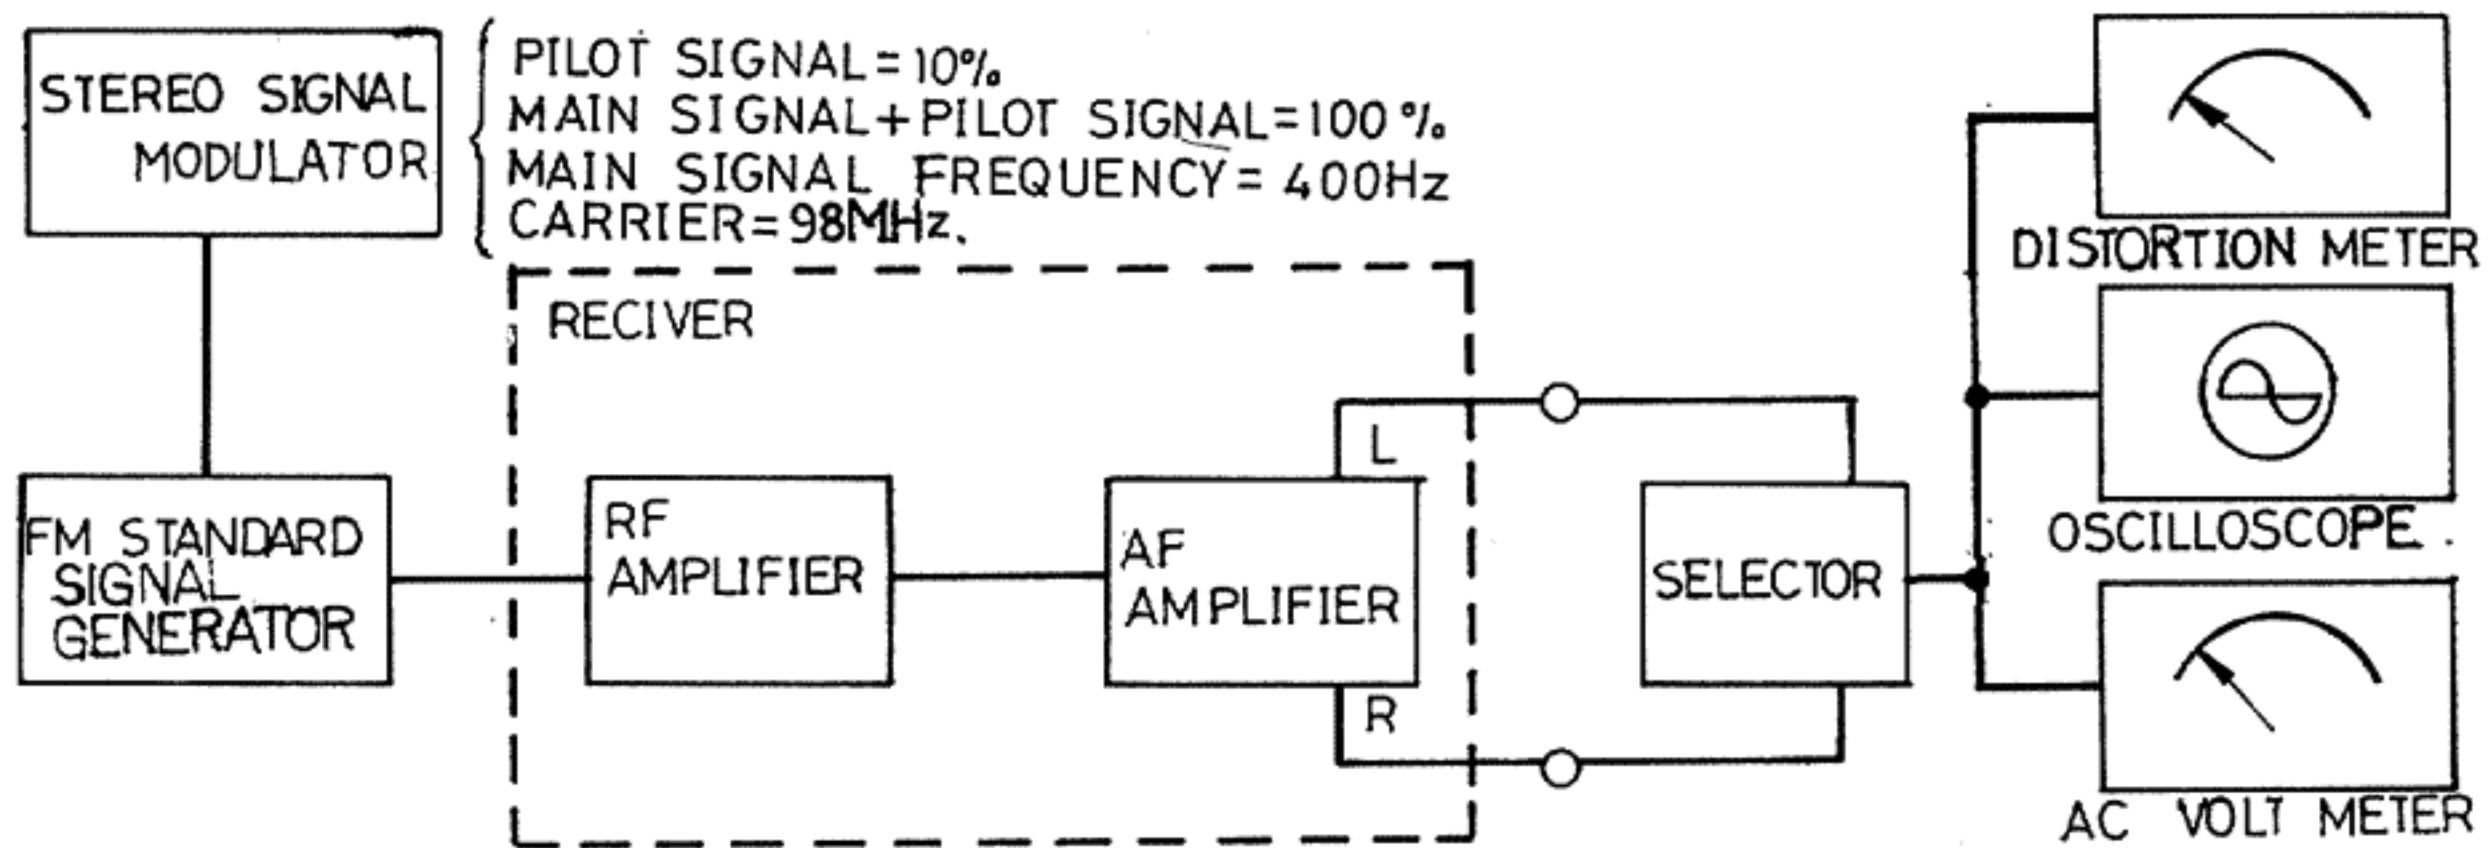

Fig. 12
- A Connect V. T. V. M., Oscilloscope & Distortion meter to speaker terminal thru. the SELECTOR (See Fig. 12)